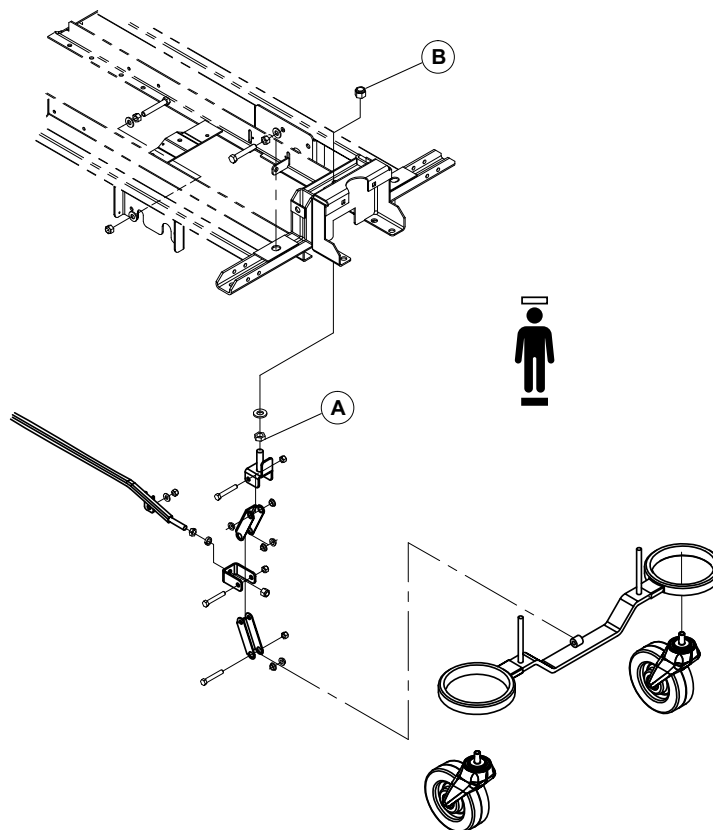

Figure 12 – Brake adjustment
5. Using a 3/4" combination wrench and 3/4" socket, loosen the jam nut (A) (Figure 12).
6. Using a 3/4" socket, screw in the locknut (B) and test the brakes (Figure 12). Repeat until a proper brake adjustment is found.
7. Using a 3/4" combination wrench and 3/4" socket, tighten the jam nut (A) (Figure 12).